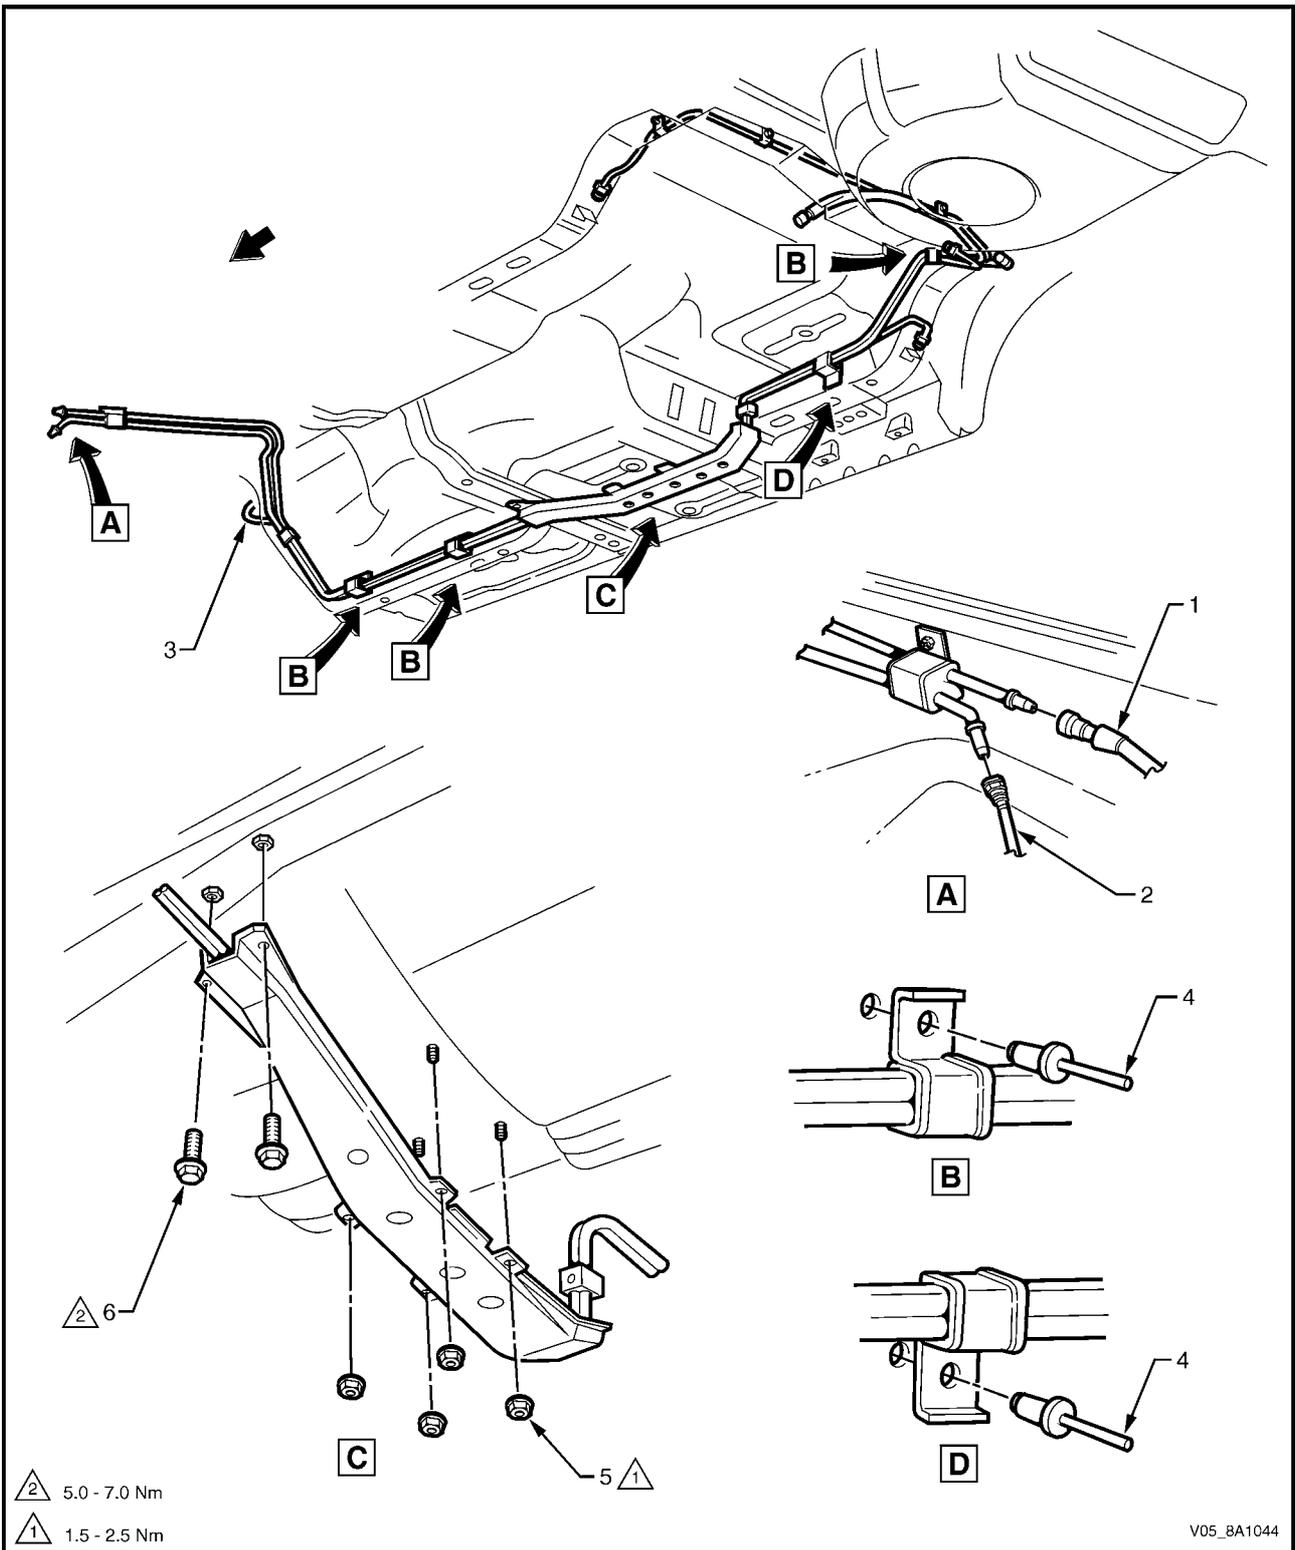

Figure 8A1 – 75
- 5 If required, remove the stone guards and fuel pipes. Use the following illustrations showing the fuel pipe layout and location of other items relating to the fuel system as a guide, refer to Figure 8A1 – 75 and Figure 8A1 – 76.